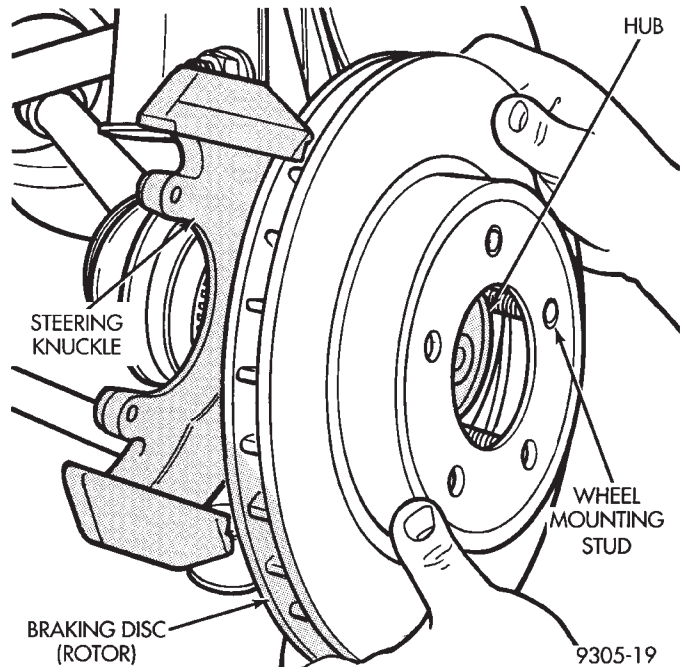

**Fig. 30 Removing Rotor**
(4) Remove rotor from hub by pulling it straight off wheel mounting studs (Fig. 30).
(4) Install the rotor on the hub and bearing assembly (Fig. 30).
(5) Install front brake caliper back over braking disc and align with caliper mounting holes on steering knuckle. Refer to Disc Brake Caliper in the Removal And Installation Section in the Brake Group of this service manual for the caliper installation procedure. Install the caliper to steering knuckle guide